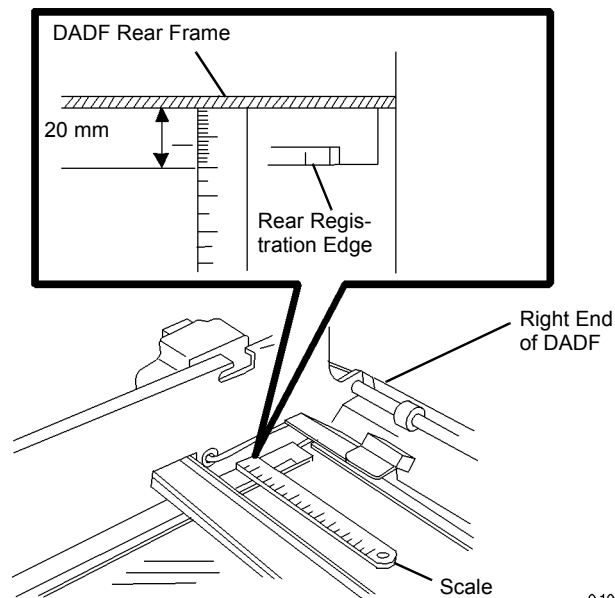

Figure 1 Checking DADF Parallelism
- b. Check that the distance between the DADF Rear Frame and the Rear Registration Edge is 20 ± 1 mm (Figure 1).